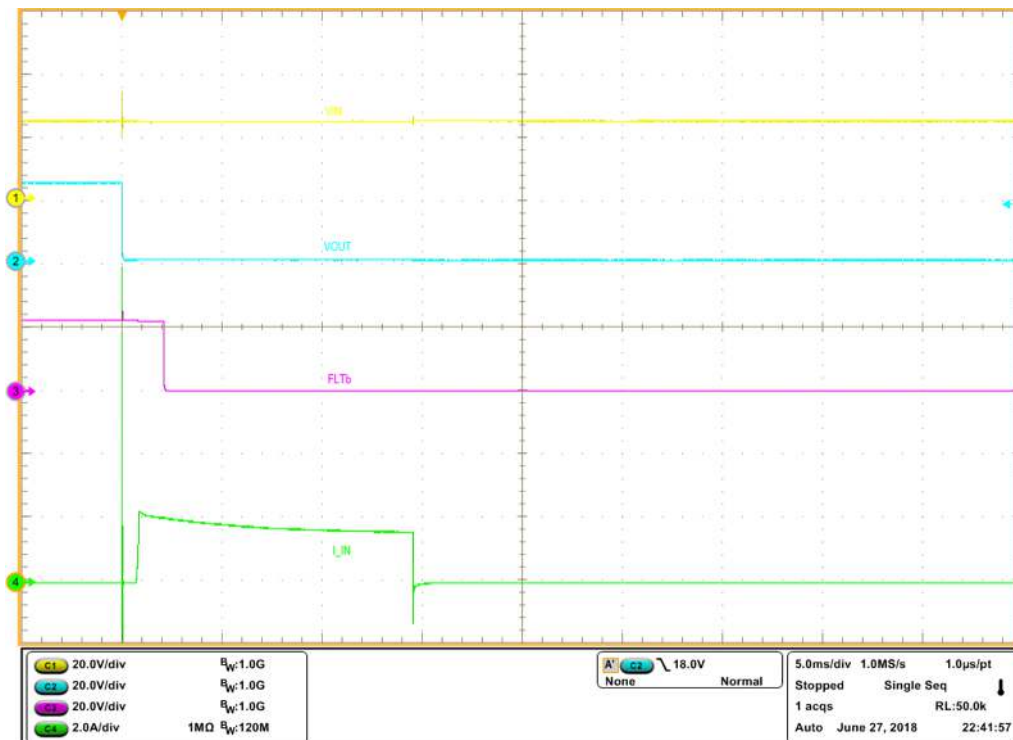

Figure 3. Output Short-Circuit Protection
4. Use either wire or FET to short the output to ground and verify the output short-circuit response waveform as shown in Figure 3.